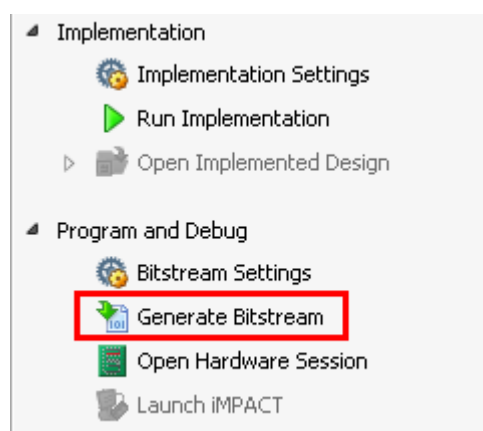

Figure 2-3 Re-generate bitstream
- Select “Generate Bitstream” menu to start re-implementation the project, as shown in Figure 2-3.